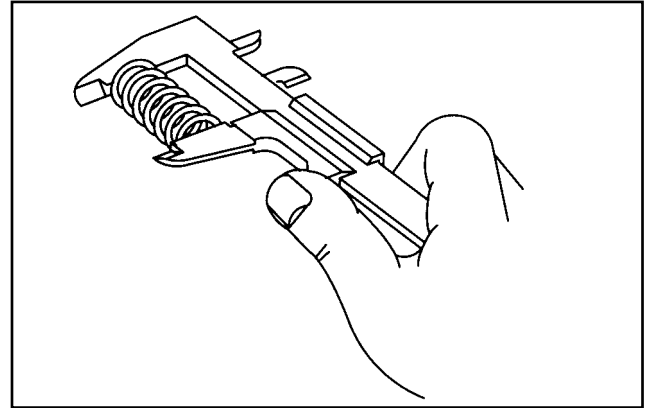

Fig. 17 - Check Valve Springs
6. Check valve springs for free length, Fig. 17. Replace if free length is less than 1.320" (33.5 mm).